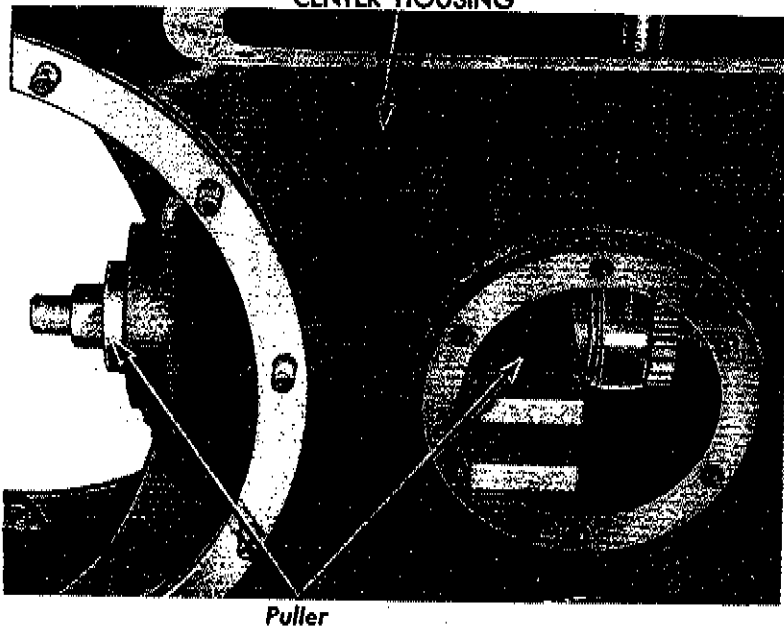

Fig. 37—Removing Drive Pinion Pilot Bearing
(3) **DRIVE PINION PILOT BEARING REPLACEMENT.** Remove the pilot bearing, using a puller that applies pressure on the bearing outer race (fig. 37). To install a new pilot bearing, place the pilot bearing in position in the housing, and install the bearing, using a tool that applies pressure on the bearing outer race.
b. Differential Assembly. The drive gear assembly (including the differential gear case) and the drive pinion are furnished only in matched sets, and, if either is damaged, both must be replaced. Replace the drive gear assembly if it has chipped or missing teeth, or loose or missing drive gear rivets. Rotate the bearings on the drive gear assembly and the differential gear case by hand. If either bearing binds, has excessively loose races, is pitted, or is discolored due to overheating, replace the bearings (subpar (1) below).